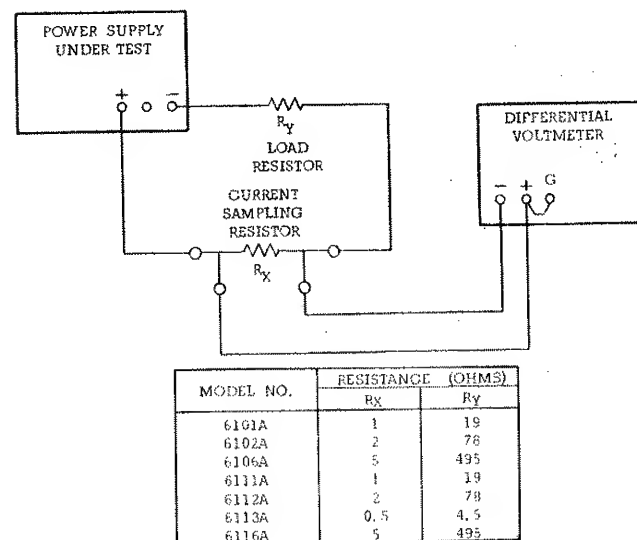

Figure 5-4. Output Current, Test Setup
a. Connect test setup shown in Figure 5-4.